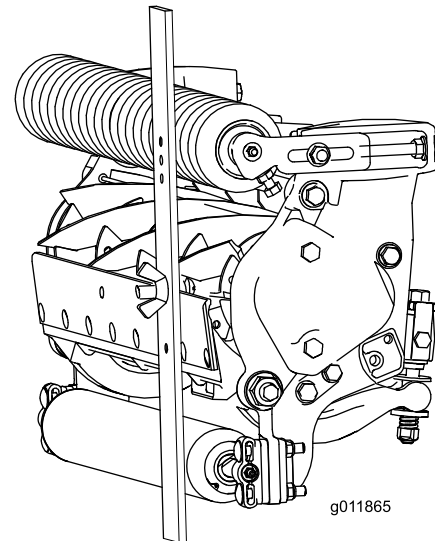

Figure 16
3. Hook the bolt head on the cutting edge of the bedknife and rest the rear end of the bar on the rear roller (Figure 16).
4. Rotate the adjusting bolt until the front roller contacts the gauge bar (Figure 16). Adjust both ends of roller until the entire roller is parallel to the bedknife.